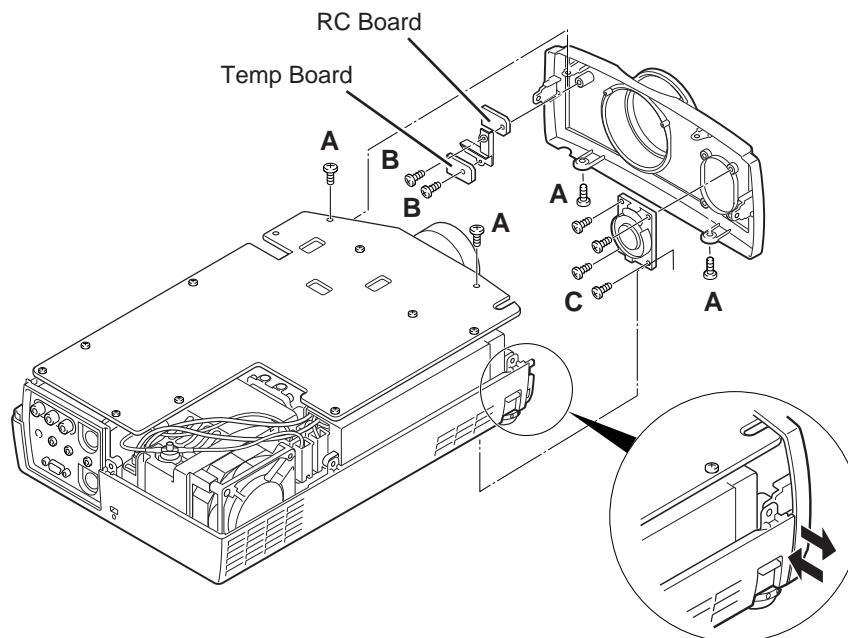

Fig. 2-5
- (1) Remove 5 screws.
- (2) Remove 2 screws A of the Cabinet Front (bottom part). See Fig. 2-5
- (3) Pull the lower part of the Cabinet Front off forward.
- (4) Pull the Cabinet Top upward while opening the arrow indicated part of it toward outside.